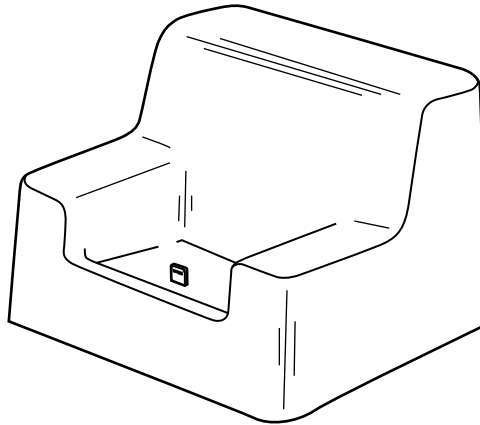

Fig. 3
- 5 Fig. 3 shows a charging station for a cordless telephone. The charging station is mass produced in a plastics material.
- (d) Describe how modern technologies could be used to produce a prototype of the charging station shown in Fig. 3.